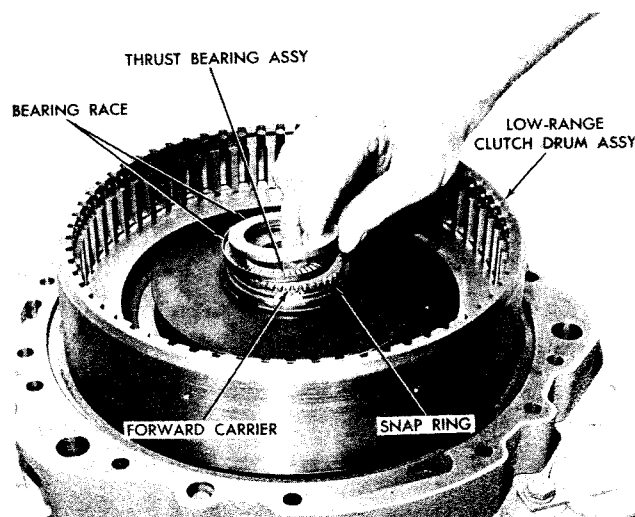

Fig. 7-22. Installing needle roller thrust bearing assembly (-3 overdrive model)
(1) Install two step-joint sealrings 1 (B, foldout 12) into the grooves in the hub of low-range clutch drum assembly 2. Use oil-soluble grease to retain them. Refer to the note following paragraph 7-3c(1), above.
(2) Install the low-range clutch drum assembly.
(3) Install the snapring which retains the clutch drum assembly on the forward carrier (fig. 7-22). Install two bearing races and bearing assembly (fig. 7-22). The thinner, lipped race is installed, flat side first, against the forward carrier hub.